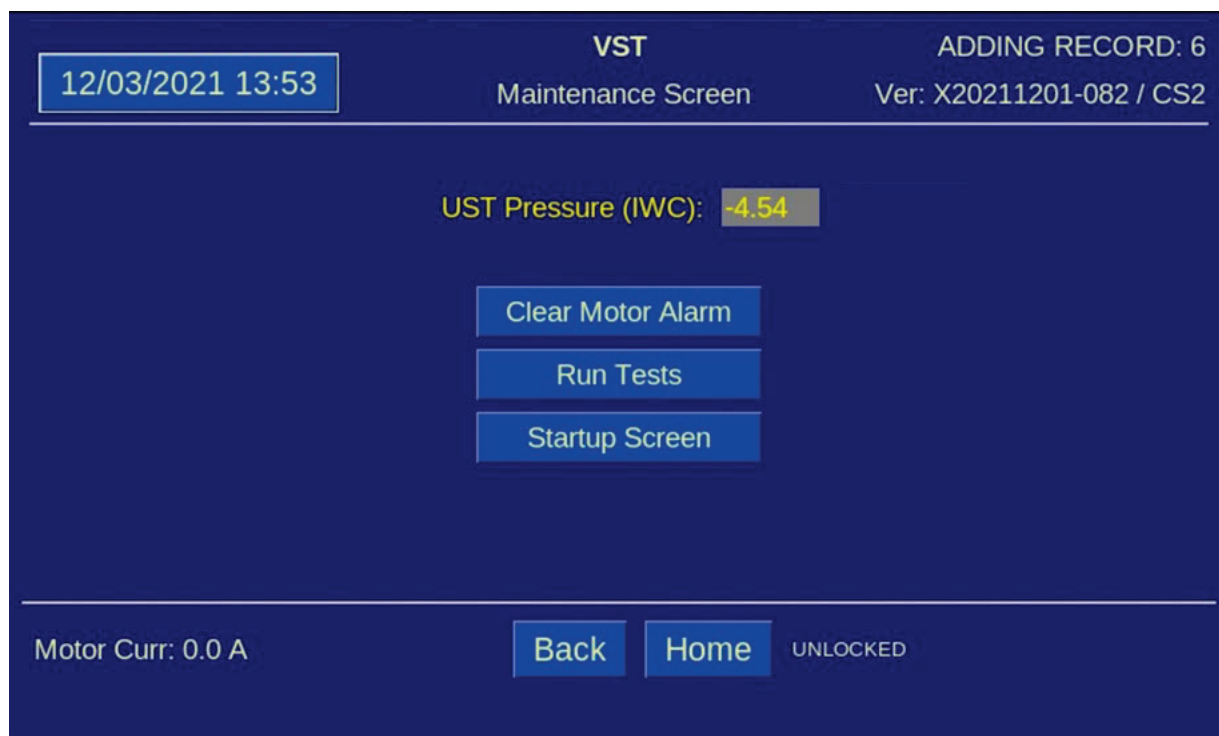

Figure 8-7: Maintenance Screen
1.	<p>Check to see if the Vacuum Pump breaker (BRK1) in the Control Panel has tripped. See Figure 8-11.</p> <ul style="list-style-type: none"> a) Enter the Maintenance screen using the code 878 to disable the GREEN MACHINE. b) Follow lockout & tagout procedures prior to starting work. c) Open the Control Panel front door d) Check the breaker BRK1 to see if it tripped: <ul style="list-style-type: none"> ● If the breaker lever is up and the window is RED, the breaker has not tripped. ● If the breaker lever is down and the window is GREEN, the breaker has tripped. e) If the breaker has not tripped, go to Step 2. f) If the Vacuum Pump breaker has tripped, move the lever up to reset the breaker. g) Push the Clear Motor Alarm button so the alarm resets. See Figure 8-7. h) Push the home button to go back to the Main Screen and the alarm will be cleared. i) The GREEN MACHINE is now in a Normal Operating Mode and will operate if the UST pressure is above 0.2 IWC. j) NOTE: IF THE VACUUM PUMP BREAKER CONTINUES TO TRIP, GO TO STEP 2.
- j) Push the Clear Motor Alarm button so the alarm resets. **See Figure 8-7.**
See Figures 8-7 and 8-8. Then press the Leak Test button.